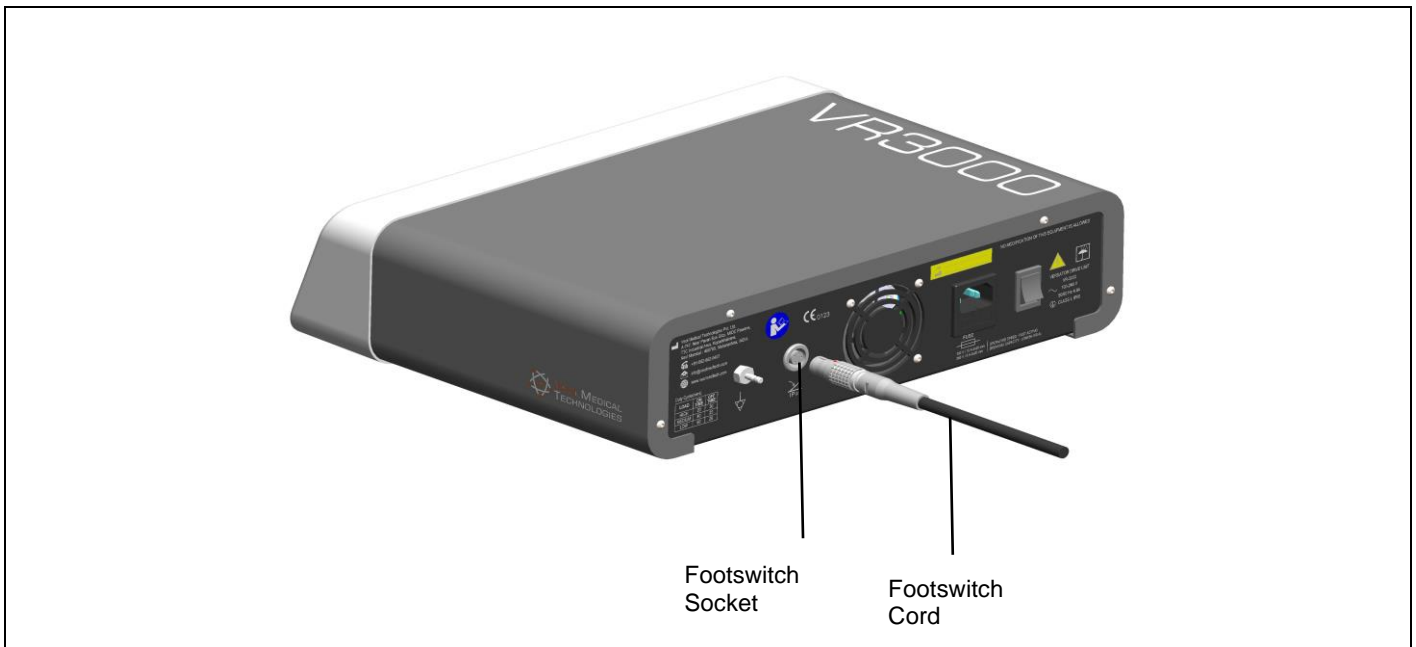

Figure 13: Connecting Foot Switch Cord to the VDU
- 5.2.1.1 Attach the foot switch cord connector to the Foot Switch Socket at the back of the VDU. (Figure 13)
- 5.2.3.2 Connect foot switch by inserting the footswitch connector into foot switch socket at the back of the VDU (See Figure 13).